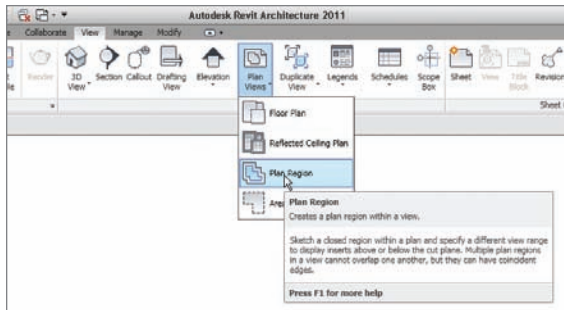

FIGURE 9.14 The Plan Region button on the Create panel of the View tab
3. On the View tab, select the Plan Views > Plan Region button, as shown in Figure 9.14.